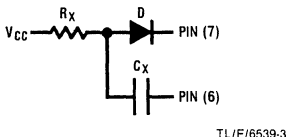

FIGURE 2
2. When an electrolytic capacitor is used for C_X a switching diode is often required for standard TTL one-shots to prevent high inverse leakage current (Figure 2). However, its use in general is not recommended with retriggerable operation.